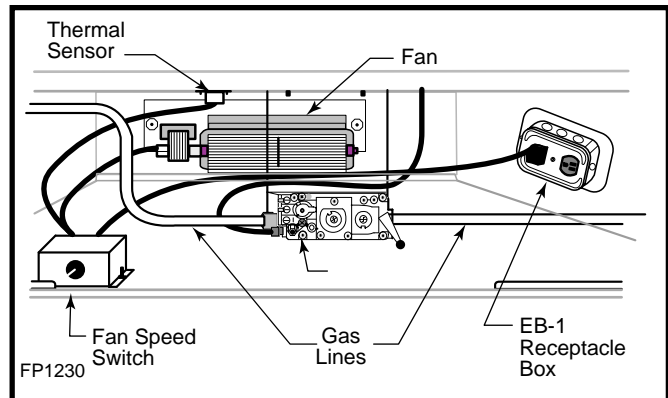

Fig. 49 FK24 fan placement.
3. Locate the fan speed control unit. This can be fitted behind the lower louvre assembly as in Figure 49 or located remotely in a conveniently located wall mounted electrical box. Remote location of the speed control will require suitable extension of the component wiring.